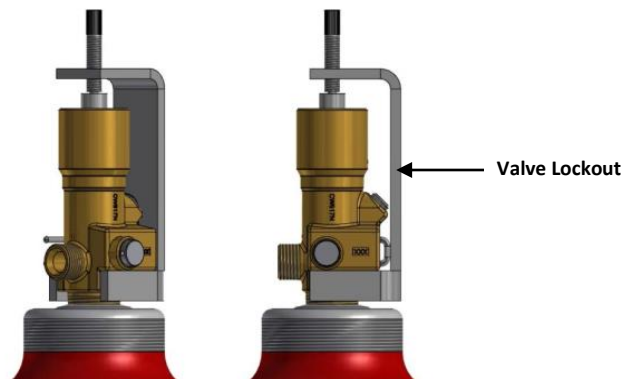

Figure 4.2.3-1 IG-541 Container with Valve Lockout Assembly Installed
- Step 7: Fit the valve lockout assembly onto the valve (Figure 4.2.3-1) prior to removing the filling hose.